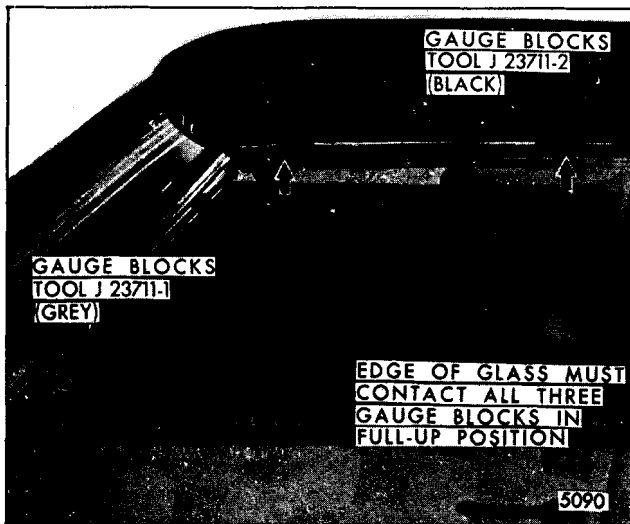

Figure 6-82-Front Door Window Alignment
2. Detach side roof rail weatherstrip at lower front corner and carefully remove from retainer over the door window, as shown in Figure 6-82.
3. Lower front and rear quarter windows and install gauge blocks, tool J-23711-2 (black) or equivalent into side roof rail weatherstrip retainer above upper front and rear corners of the glass as shown in Figure 6-82. Then, install gauge block, tool J-23711-1 (grey), or equivalent into windshield pillar retainer slightly above beltline.